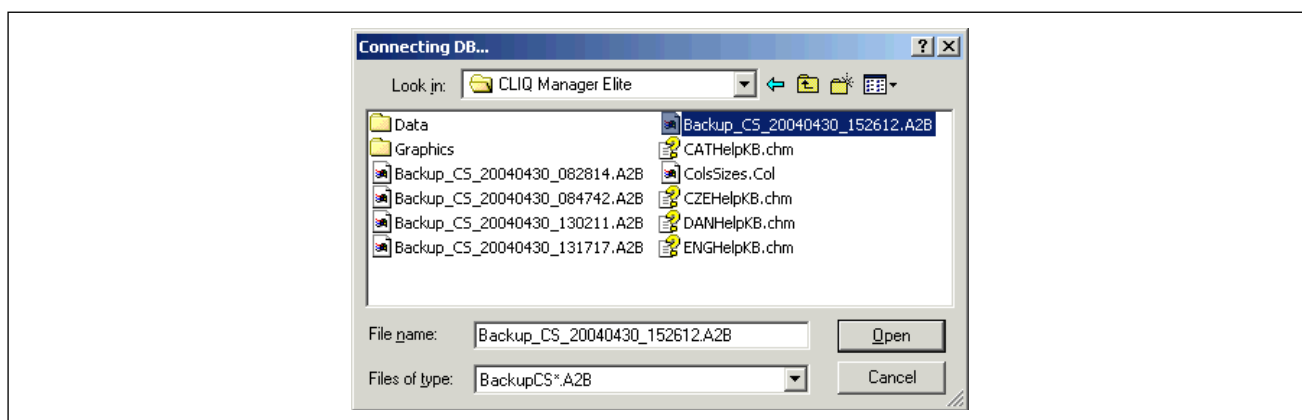

Fig. 9.2/24: “Connecting DB...” window
**Note:** If you have assigned a password to the backup file, the “Write password or phrase” window opens (see fig. 9.2/20). Enter the previously defined password in this box.